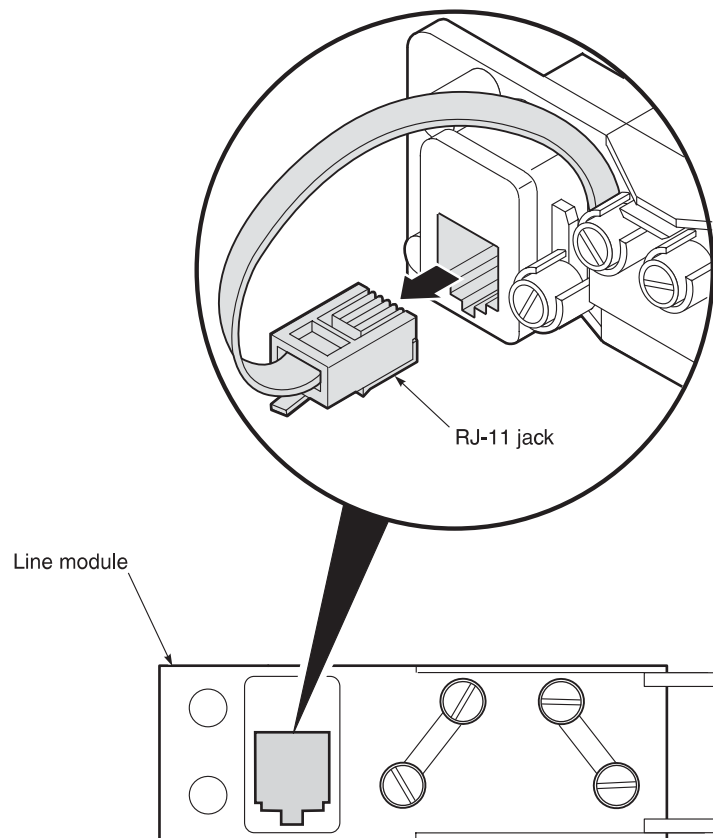

Figure 10. Unplugging the RJ-11 Jack
- 1 Open the line module door and disconnect all the ISDN RJ-11 jacks (see Figure 10). The Activity LED is Off.